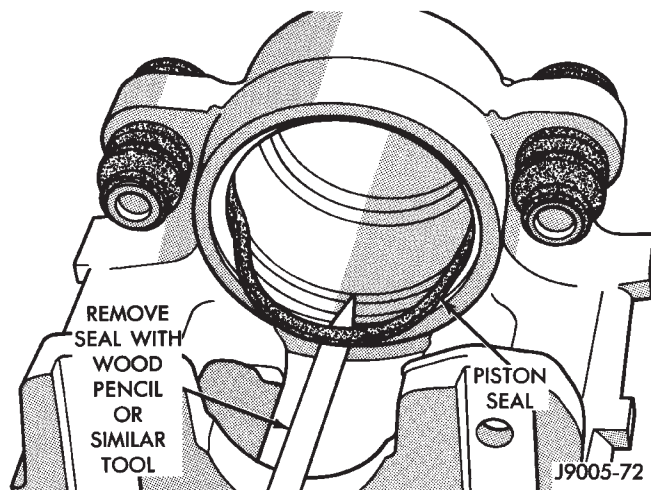

Fig. 15 Removing Caliper Piston Seal
(5) Remove and discard caliper piston seal with pencil, toothpick, or plastic tool (Fig. 15). Do not use metal tools as they will scratch piston bore.